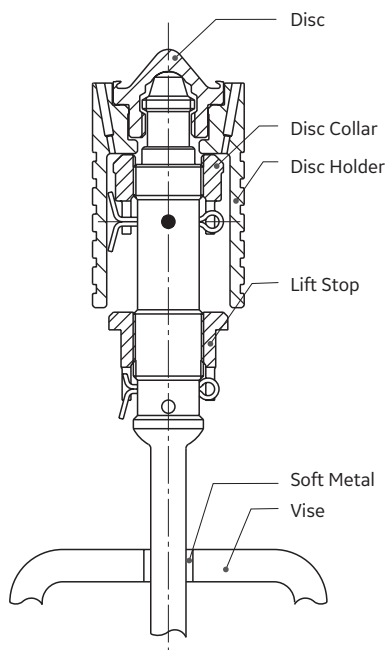

Figure 13: Spindle Vise
- To remove the disc and disc holder from the spindle, first insert the spindle into a vise (see Figure 13) being careful not to damage the threaded end of the spindle. Then, lift up on the disc holder and turn the disc/disc holder counterclockwise to engage the “drop-thru” threads. Once the threads are engaged, release the disc holder and continue to unthread and remove the disc. After the disc is removed, lift the disc holder from the spindle.